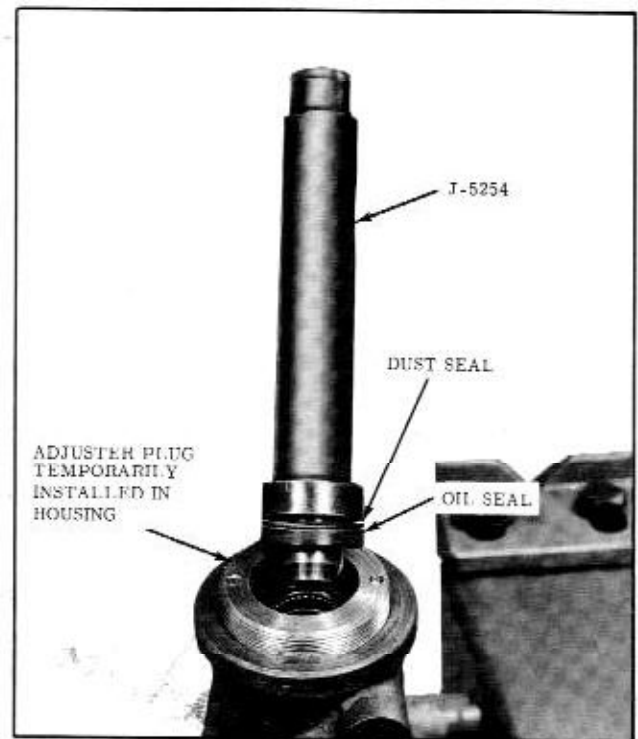

Fig. 4-13 Installing Seals
2. If seal was removed, temporarily install the adjuster plug in the gear housing and place new dust seal and a new oil seal on Tool J-5254 (lip of dust seal facing tool and lip of oil seal away from tool). Lubricate seals with Hydra-Matic oil and drive or press seals into adjuster plug just far enough to provide clearance for the retaining ring. (Fig. 4-13) Tool J-5254 must be free of burrs that could scratch the seal.